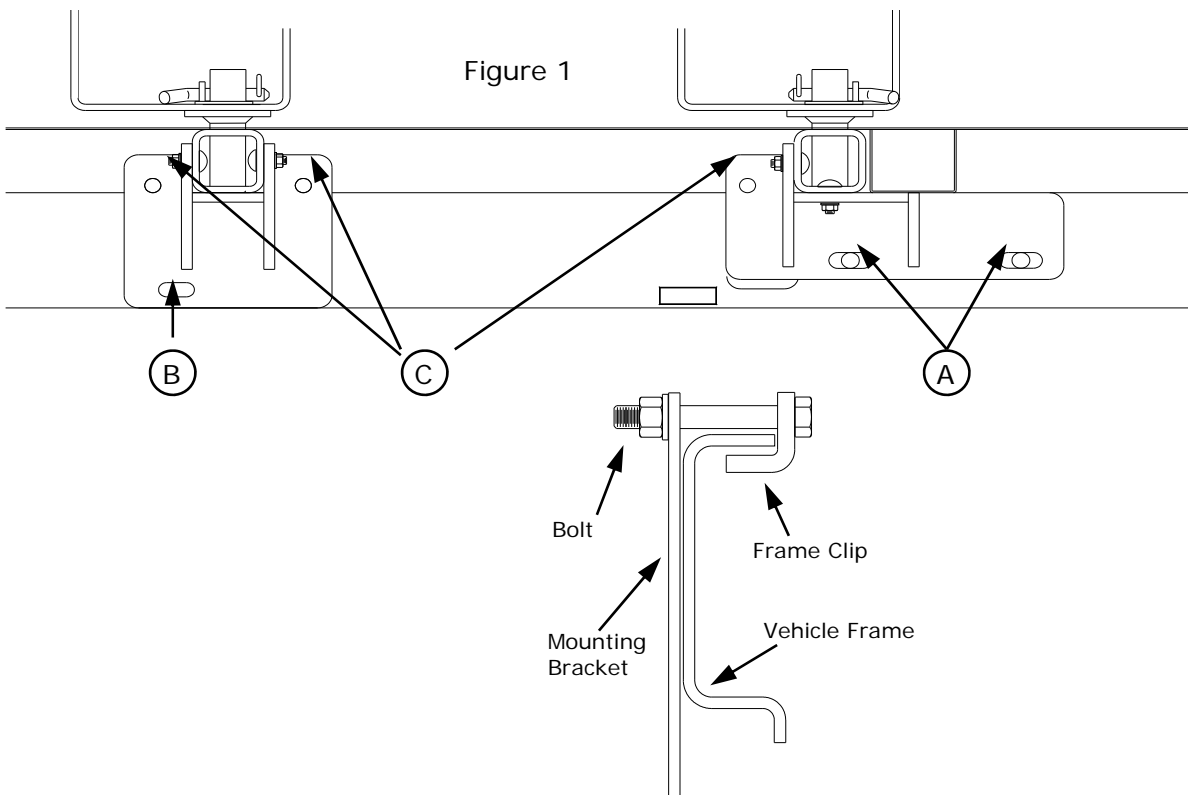

Figure 2
2. Install fastener (C) using a frame clip and tighten by hand. See enlarged drawing in Figure 2.
3. Install fasteners (C) using the frame clips seen in figure 2.